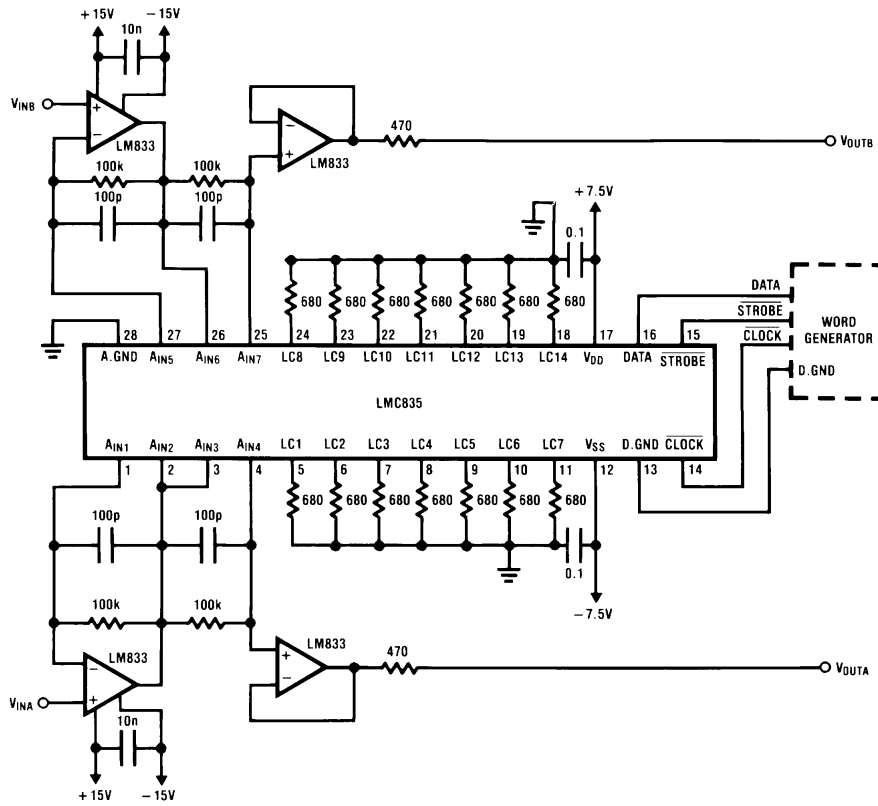

FIGURE 3. Test Circuit for AC Measurement
**Note 2:** Boldface numbers apply at temperature extremes. All other numbers apply at  $T_A = 25^\circ\text{C}$ ,  $V_{DD} = 7.5V$ ,  $V_{SS} = -7.5V$ ,  $D.GND = A.GND = 0V$  as shown in the test circuit, Figures 3 and 4.